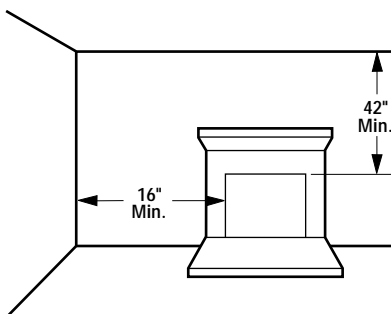

Figure 1
*Note: Illustrations shown in this manual reflect "typical" installations with nominal dimensions and are for reference only. Actual installations may vary due to individual design preferences. However, always maintain minimum clearances to combustible materials and do not violate any specific installation requirements. Refer to Figures 1 through 7 for clearances.*
Ensure the minimum clearances shown in Figures 1 through 7 are maintained. Left and right clearances are determined when facing the front of the heater.
**Step 1. Sidewall Clearances:** The sides of the fireplace opening must be at least 16" from any combustible side wall (Figure 1).
**Step 2. Ceiling Clearance:** The ceiling must be at least 42" from the top of the heater opening (Figure 1).